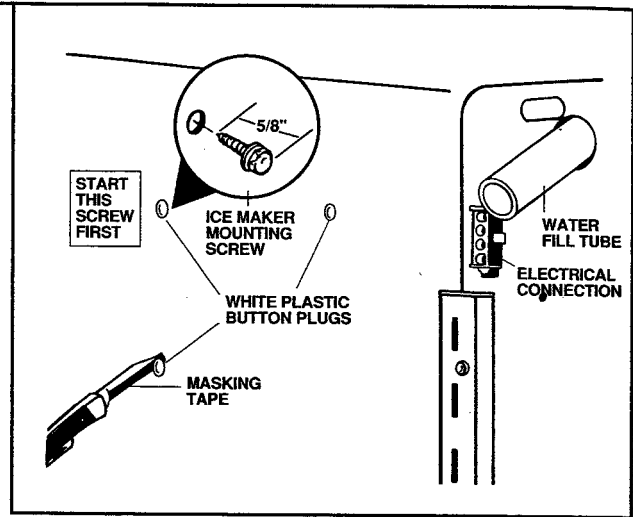

Figure 15
- c. Cover the tip of a knife blade with masking tape to protect the interior surface. Carefully pry out and discard the three (3) white plastic buttons from the left side of the interior freezer wall. See Figure 15.